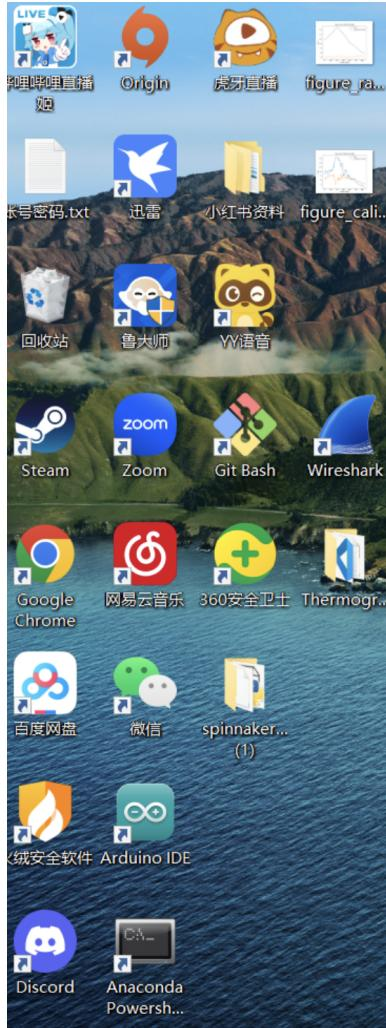

Figure 7: Main Page
3. Open the software called “Anaconda Powershell” which lies in the bottom left corner of the Main page [Figure 7]